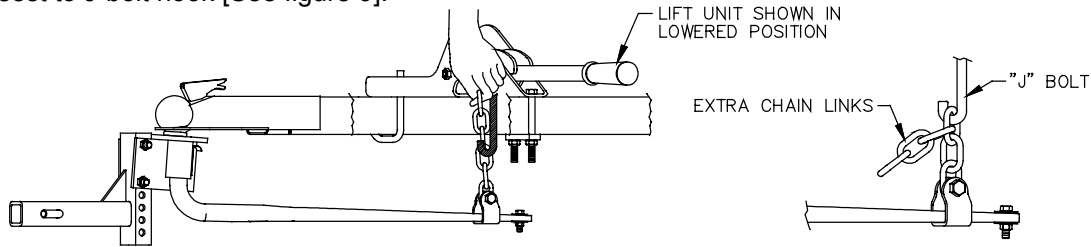

Figure 9
1. With lift unit in lowered (Open) position, pull straight up firmly on spring bar chain. Note which link is closest to J-bolt hook [See figure 9].
2. Attach upper end of chosen chain link to lift unit J-bolt, while allowing remaining free links to fall down [See figure 9].